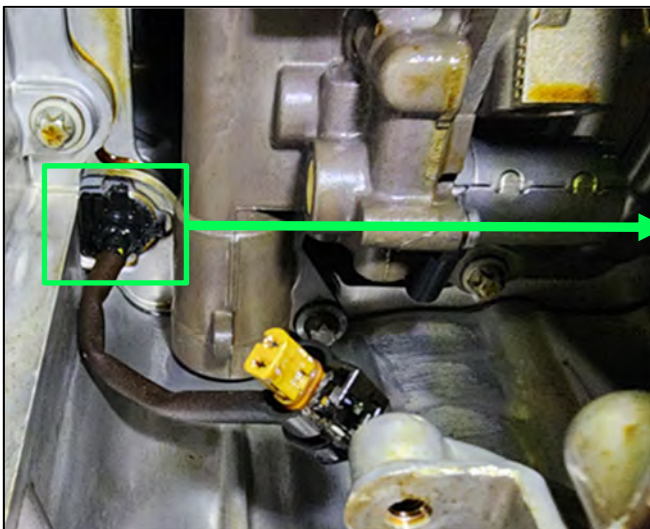
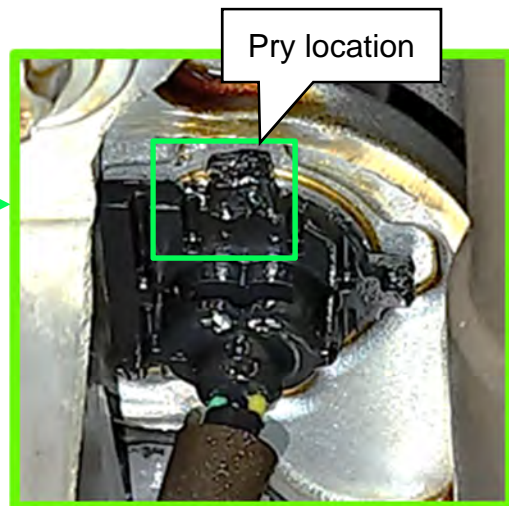

Figure 11
Figure 12
- Using a suitable tool, in the area shown in Figure 11 and Figure 12, apply downward force on the engine room sub-harness connector.